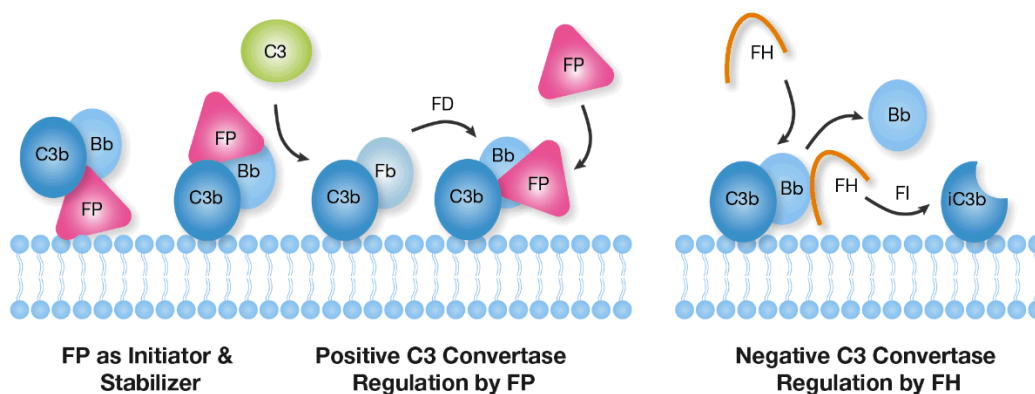

Figure 1: Factor P as stabilizer and initiator of the alternative complement pathway (left) and the opposing negative regulation by Factor H³ (right).
Factor P (Complement P, Properdin, FP) is a positive regulator and an initiator of the alternative pathway (AP) for complement activation. It binds surface-bound C3 and C5 convertases and stabilizes them to amplify the activation cascade¹. Factor P binding increases the half-life of the convertase complex approximately 10-fold². It is suggested, however debated, that Factor P also can initiate complement activation by binding for example cell surfaces or certain biological substrates, recruiting C3b or C3(H₂O) and Factor B and thus initiate the AP pathway^{1,3}. Factor P opposes the negative regulation of Factor H that enhances the dissociation of C3b and Bb and mediates Factor I cleavage of C3b to the inactive iC3b³ (Figure 1).